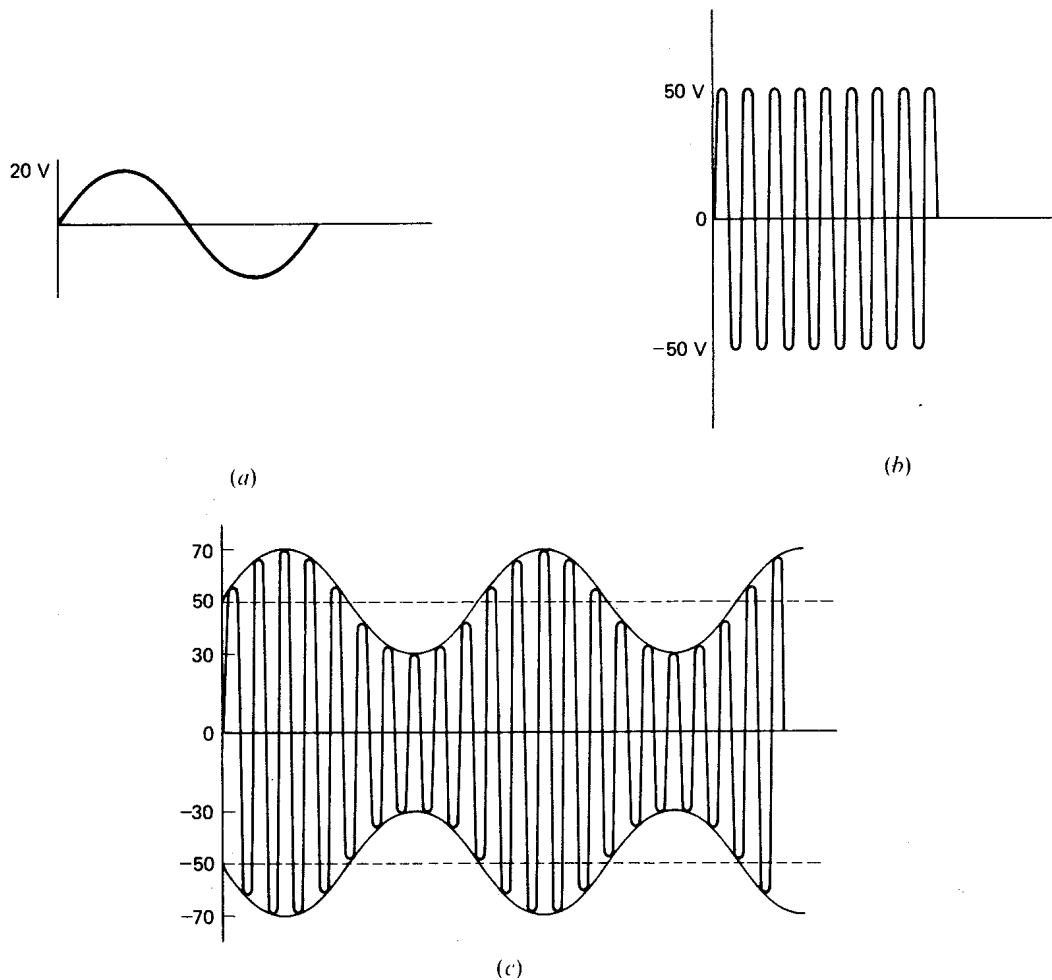

Fig. 3-15
- (a) See Fig. 3-15(a).
(b) See Fig. 3-15(b).
(c) The envelope of the carrier is first developed by drawing the horizontal dashed line at the unmodulated carrier amplitude, both positive and negative. The audio signal is now sketched around the dashed line, providing the envelope within which the radio-frequency signal can be laid in. See Fig. 3-15(c).